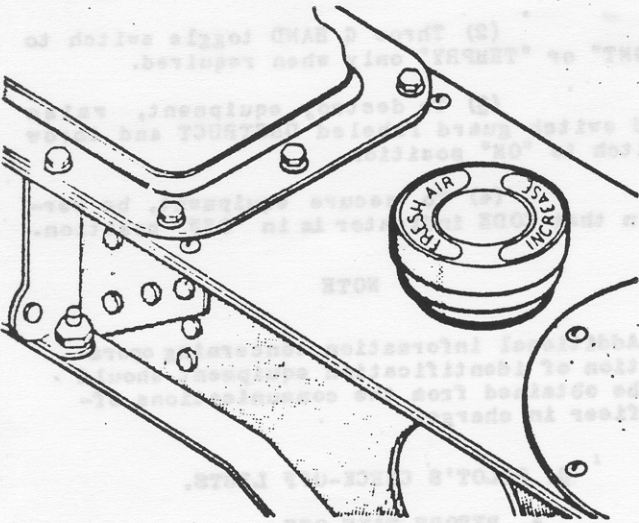

Figure 39 — Cockpit Ventilator Control
- b. The ventilator control, supplying fresh air to the cockpit, is located on the right side of the stick support beam. (See figure 39.) Turn the regulating knob counterclockwise to increase the flow of fresh air.